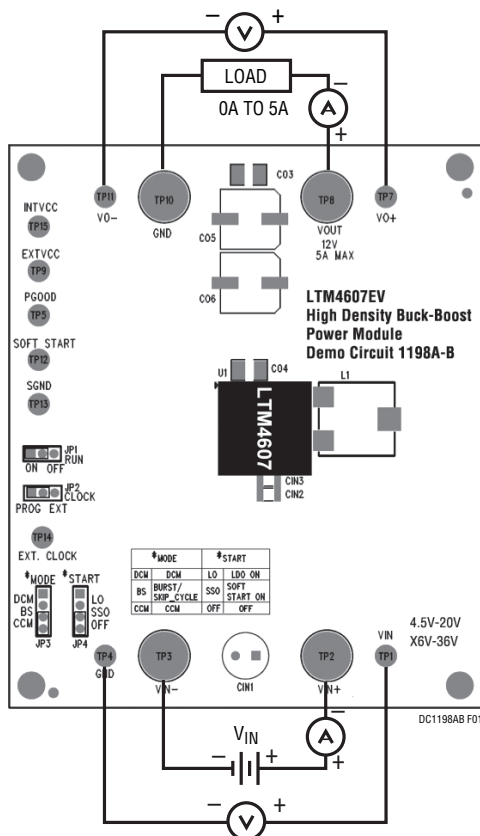

Figure 1. Test Set-Up of the DC1198A-B
Demonstration circuit DC1198A-B provides a simple way to evaluate the performance of the LTM4607EV. Please refer to Figure 1 for the proper measurement equipment set-up, and follow the procedure below:
2. With the power off, preset the load to 0A and the V_{IN} supply to less than 36V. Next, connect the input power supply, load and meters, as shown in Figure 1.